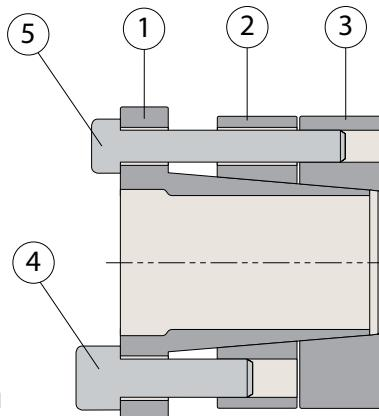

Figure 1
INSTALLATION (Refer to Figure 1)
2. Loosen all locking screws by a minimum of two (2) turns and transfer at least two (2) larger screws (item 4) into push-off threads in the collar (item 1) in order to keep tapers of Parts 1, 2 and 3 disengaged during assembly (see Figure 1).
4. Hand tighten all locking screws and confirm that flanged collar (item 1) is parallel and in full contact with face of part to be attached to shaft.
5. Use a torque wrench and set to approximately 5% higher than specified tightening torque M_a for large screws (item 4). Tighten large locking screws in a clockwise or counterclockwise sequence (it is not necessary to tighten in a diametrically opposite pattern), using only 1/4 (i.e., 90°) turns for several passes until 1/4 turns can no longer be achieved.
7. Repeat steps 5 and 6 for smaller locking screws (item 5), but setting 5% higher of specified tightening torque M_a for the smaller screws.